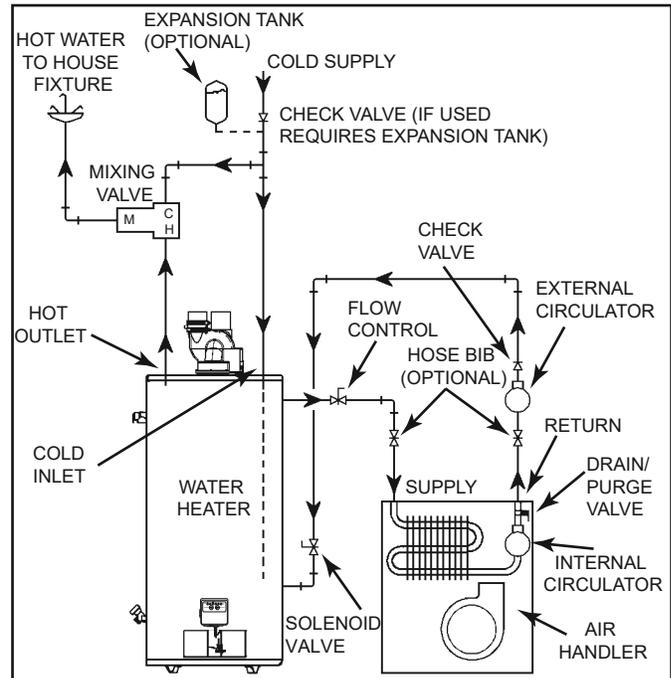
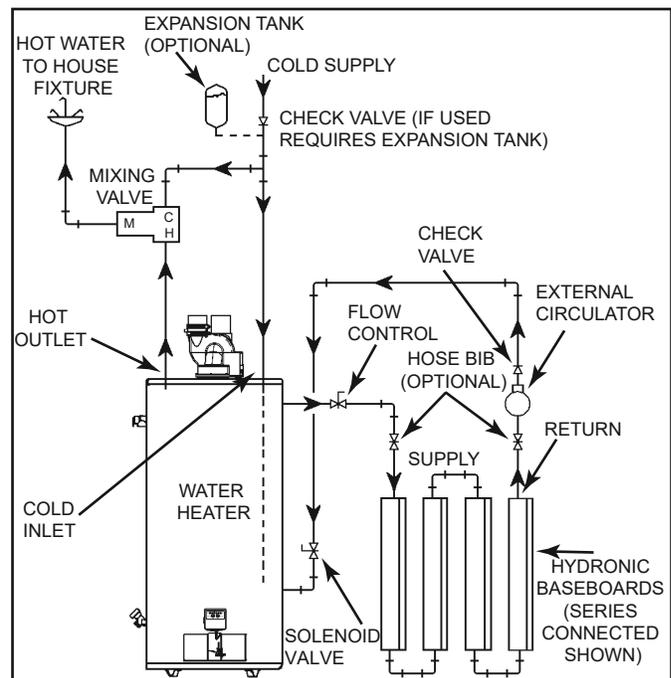

Figure 11.
Figure 12.
8. “Combo” Heating Systems require higher water temperatures than other applications. When the system is used to supply water for Combo Heating applications, a means, such as mixing valve, must be installed to temper the water in order to reduce scald hazard potential (see Figure 11 & Figure 12).
- A. A fan coil/air handler (Figure 11).
- B. A hydronic baseboard (finned tube) loop/In floor heating (Figure 12).